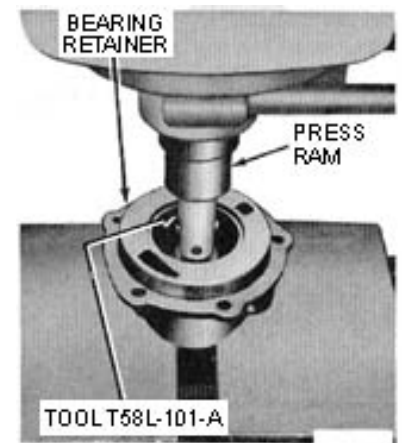

Figure 13 – Removing Rear Bearing Retainer Outer Cup, Bearing, and Seal
5. Press the outer cup, bearing and seal from the bearing retainer as shown in Fig. 13.
6. Remove the inner cup with the tool shown in Fig. 13.